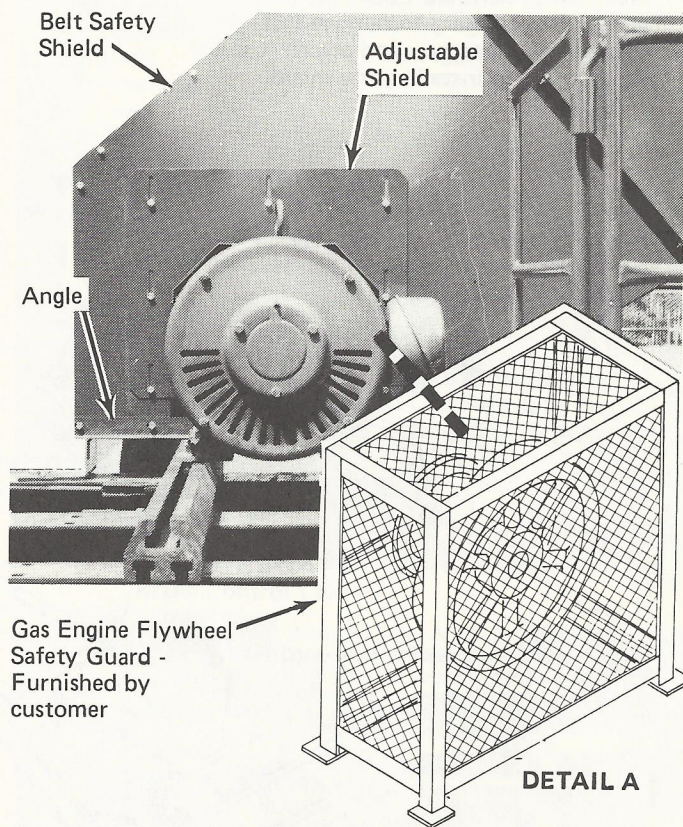

Figure 19
SAFETY NOTE: Flywheels on gas engines for pumping units should be guarded by enclosures. The design of this enclosure should permit temporary access to the flywheel when necessary for engine starting. See detail A of figure 19 for an example.
22. Install adjustable shield, centered over drive shaft of power unit as shown in figure 19. Install angle along bottom edge of shielding if removed. When a gas engine has been installed, customer should furnish safety shielding to enclose an exposed flywheel and other moving parts.
this enclosure should permit temporary access to the flywheel when necessary for engine starting." See detail A of figure 19.